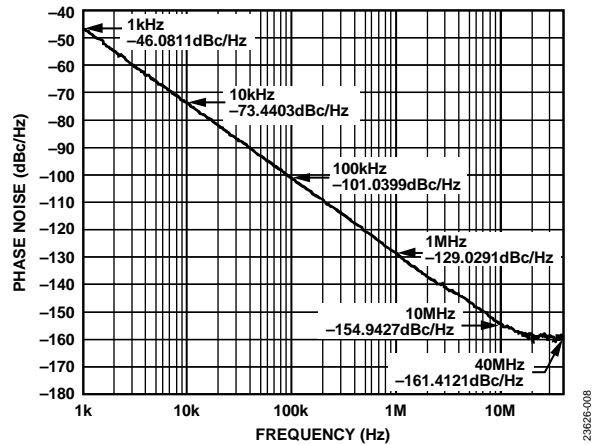

Figure 6. EV1HMC8362LP6G Phase Noise at J3, VCO Band 1, $V_{TUNE} = 8.45$ V, 13.5 GHz
4. Finally, use the signal source analyzer to measure the phase noise. Refer to Figure 6.